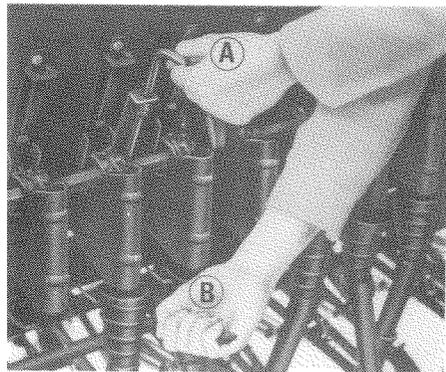

Fig. 14
- Disengage the coulters tubes by means of the handles A and B, and push forward (Fig. 14).